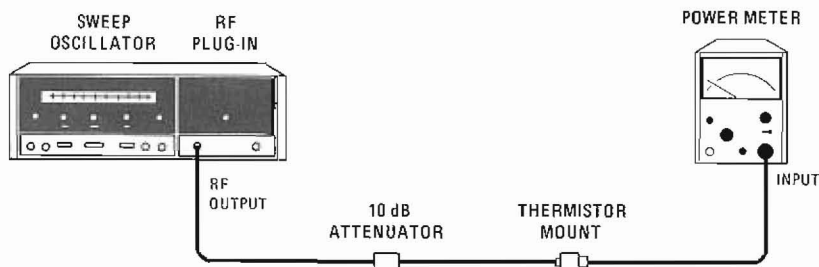

Figure 4-5. Power Level and Variation Test Setup
- a. Connect equipment as shown in Figure 4-5.